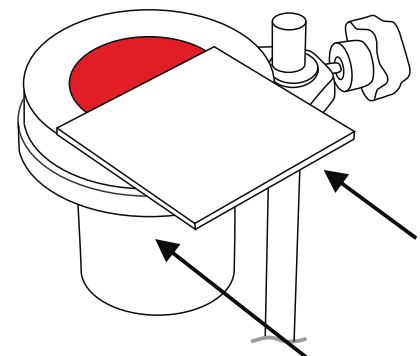

Figure 3
- 5 Slide the glass plate over the rim of the cup to remove excess sample. Avoid the formation of air bubbles between the glass plate and the liquid (Figure 3).